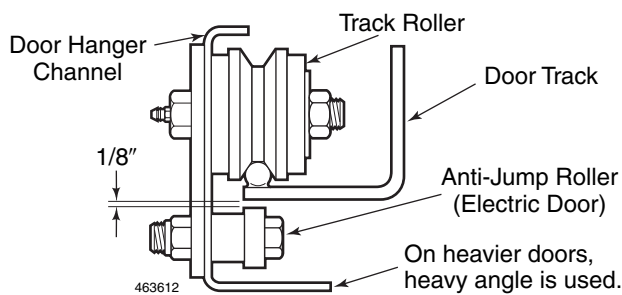

Figure 8
4. Install the Anti-Jump Bolt or Anti-Jump Roller to keep the door on the track. Adjust to a gap of 1/8". See Figure 8.